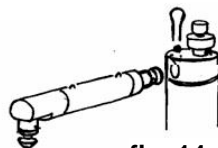

fig. 14
- Remove Garnishing Nozzle and Locking Device (fork) from Valve Head. Turning lightly, pull Whipping System out of the Valve Head. (fig. 14)